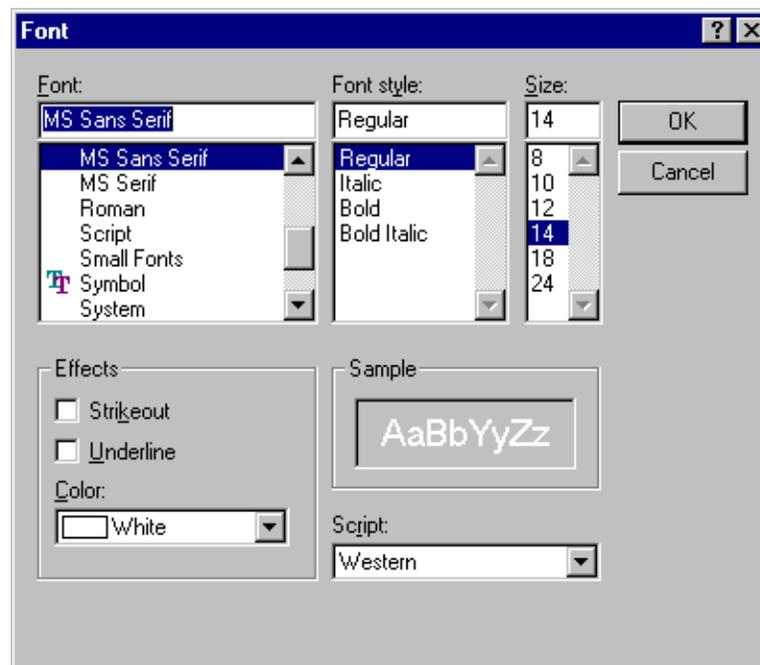

Figure 130. Font dialog box
1. Choose **View | Font** and the Font dialog box appears (Figure 130).